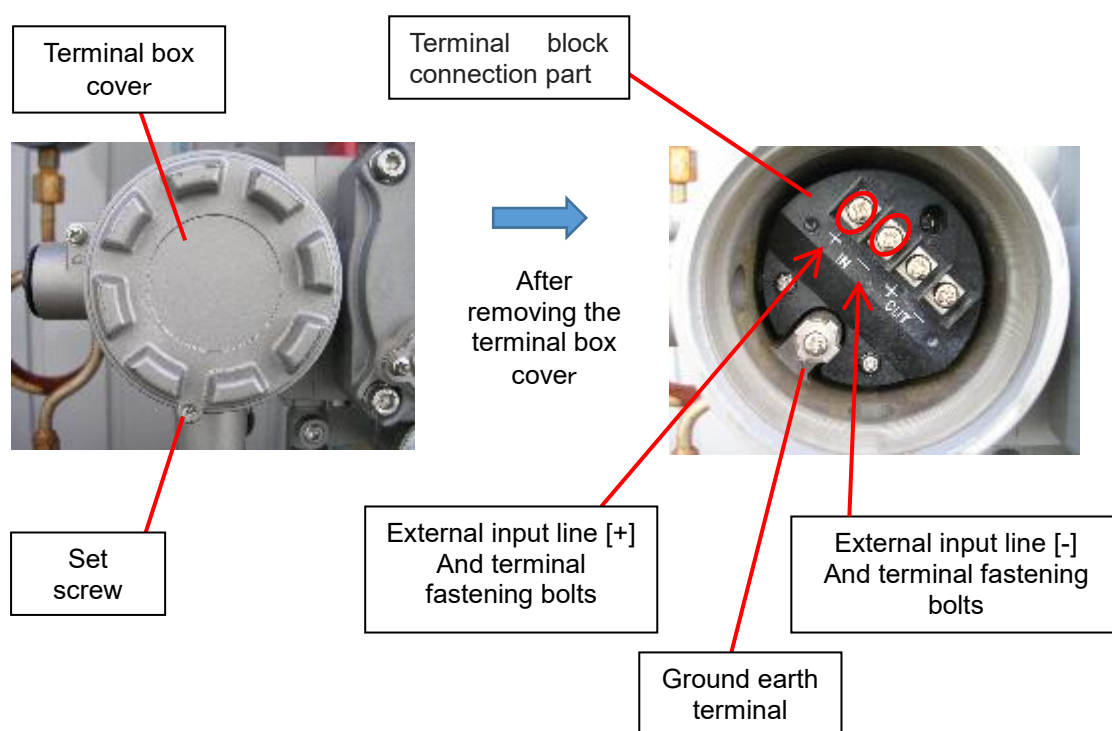

Fig.12
*Terminal wiring method (See Fig.12)
- ① Remove the set screw of the terminal box (Use the hex wrench) and remove the terminal box cover.
- ② Please connect the positive terminal of the terminal block located in the terminal box to the positive line of external input line. (In case of negative terminal, please connect the negative terminal of the terminal block located in the terminal box to the negative line of external input line). To protect the positioner, earth the gland earth terminal. When connecting, please tighten the terminal fastening firmly so that there is no connection failure.
- ③ After connecting the external line, tighten and fix the set screw after closing the terminal box cover. (Tightening torque: $0.25\text{N} \cdot \text{m}$)